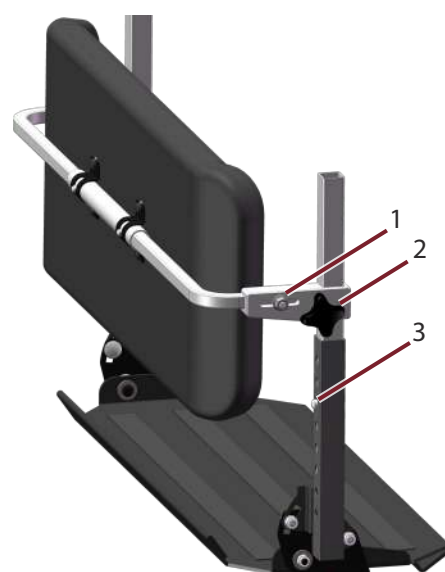

Figure 25. One-piece calf support
- Loosen the lock nut a few turns (1 in Figure 25) on both sides.
- Loosen the knob (2 in Figure 25) on both sides.